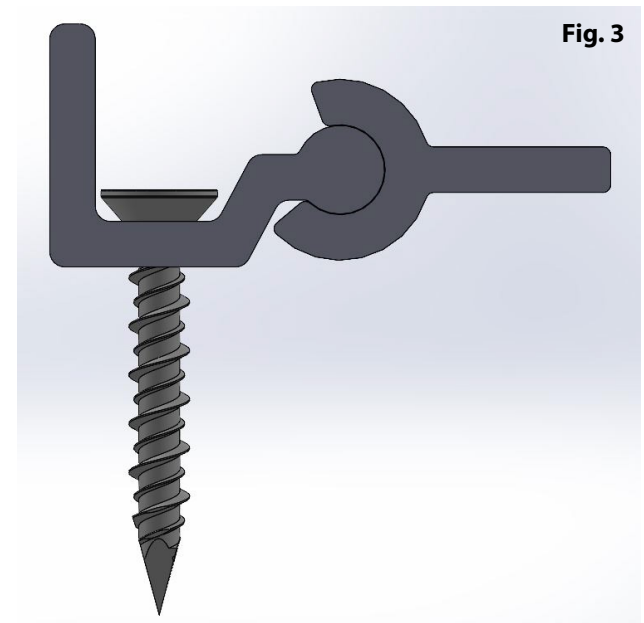

Fig. 3
4. Using the 3/16" screws provided, fasten it into the pre-drilled hole. (Shown in Fig. 3)